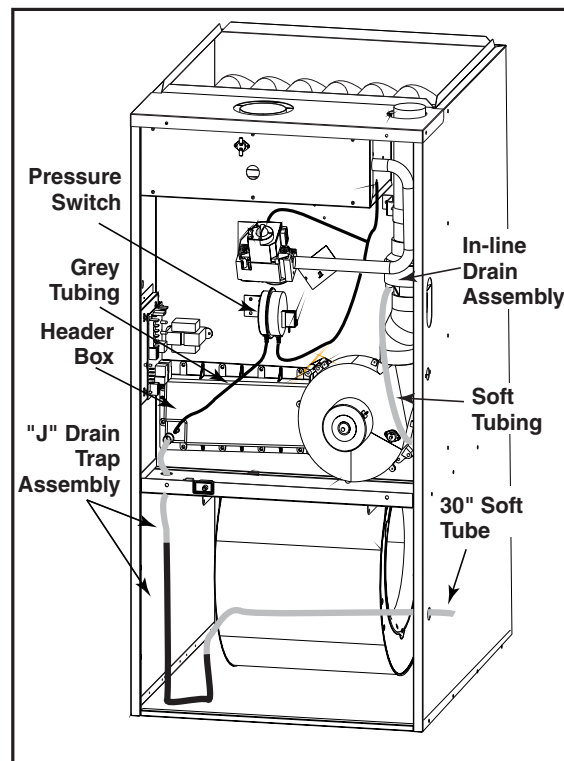

Figure 2. 90+ Upflow Furnace as Shipped From the Factory
## Conversion of the 90+ Upflow Furnace for a Horizontal Right Installation (See Figures 2 & 3)
## Conversion of the 90+ Upflow Furnace for a Horizontal Left Installation (See Figures 2 & 4)
2. Ensure that the piece of soft tubing running from the in-line drain assembly to the header box is in place with the drain oriented downwards (See Figure 2).